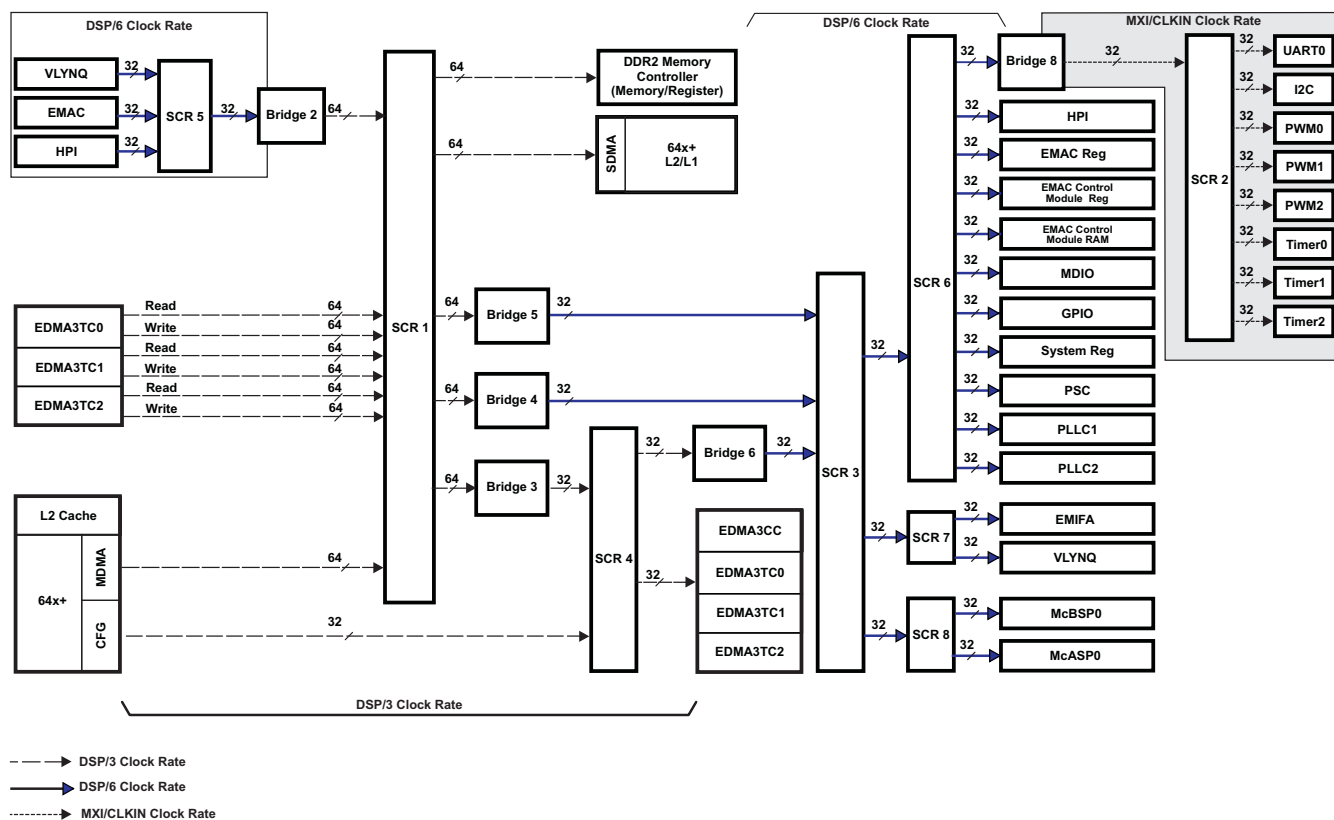

Figure 4-1. System Interconnect Block Diagram
On the C6421 device, the C64x+ Megamodule, the EDMA3 transfer controllers, and the system peripherals are interconnected through a switch fabric architecture (see Figure 4-1). The switch fabric is composed of multiple switched central resources (SCRs) and multiple bridges. The SCRs establish low-latency connectivity between master peripherals and slave peripherals. Additionally, the SCRs provide priority-based arbitration and facilitate concurrent data movement between master and slave peripherals. Through an SCR, the DSP can send data to the DDR2 Memory Controller without affecting a data transfer between the EMAC and L2 memory. Bridges are mainly used to perform bus-width conversion as well as bus operating frequency conversion. For example, in Figure 4-1, Bridge 6 performs a frequency conversion between a bus operating at DSP/3 clock rate and a bus operating at DSP/6 clock rate. Furthermore, Bridge 5 performs a bus-width conversion between a 64-bit bus and a 32-bit bus.
Figure 4-1 displays the C6421 system interconnect block diagram. The following is a list that helps in the interpretation of this diagram:
- A peripheral may have multiple instances shown in Figure 4-1 for the following reason: